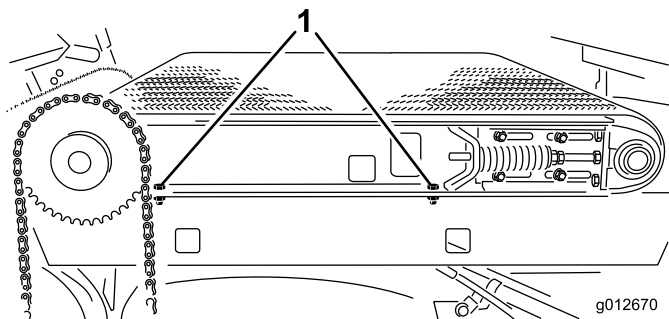

Figure 25
6. Loosen (2) capscrews, washers and nut, on right side of machine, securing slider bed to frame (Figure 25). Make sure fasteners are loose enough to allow slider bed to be tipped.